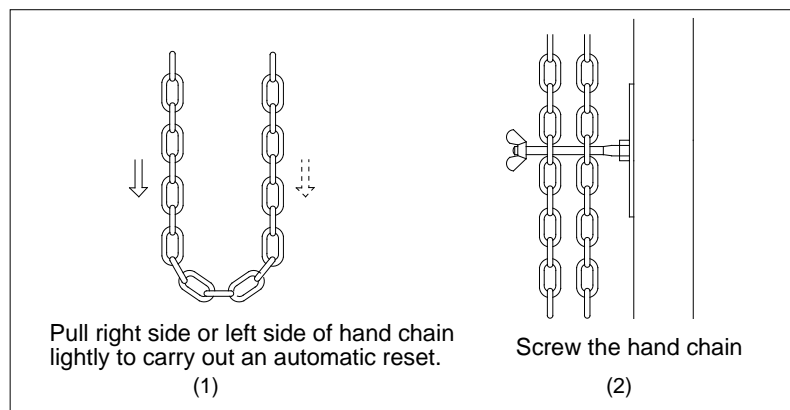

Fig.12
If the operator does not work electrically and "Err01" indicates on the LED, pull one side of hand chain lightly until a reset is carried out see Fig.12 (1), the 'Err01' disappear, now the electronic control unit can be used.
- It is recommended to fix the lower part of the chain as shown in Fig.12 (2), to avoid hindrance to people and equipment move.